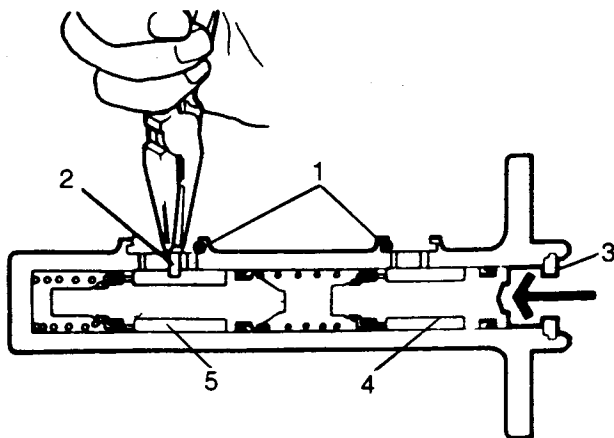

Fig K1.24
- (2) Refer to Fig K1.24. Lever out seals (1).
- (3) Push the plunger fully down the cylinder bore and withdraw secondary plunger stop pin (2).
- (4) Remove the circlip (3) and withdraw the primary plunger assembly (4).
- (5) Tap the cylinder on a soft or wooden surface to remove the secondary plunger assembly (5).
- (6) Remove the secondary plunger spring seal retainer, recuperating seal and washer. Keep the plunger and its spring together at all times.
- (7) Remove seal from the plunger.
- (8) Remove the primary plunger spring, seal retainer, recuperating seal and washer. Keep the plunger and its spring together at all times.
- (9) Remove the seal from the plunger.